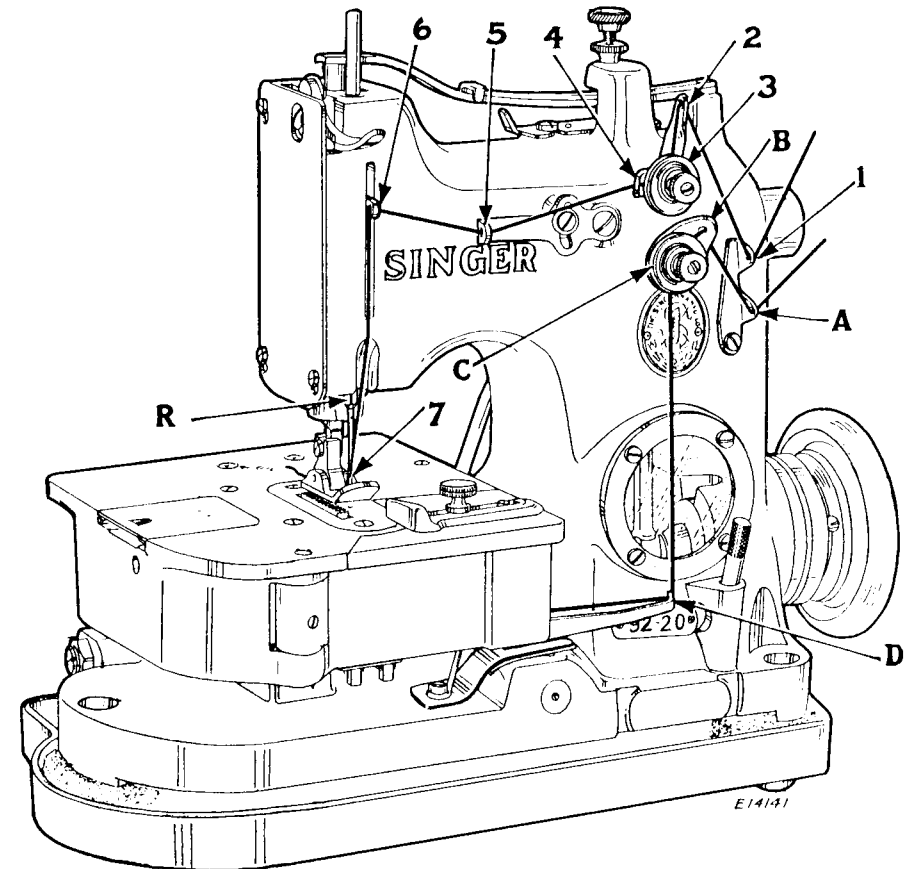
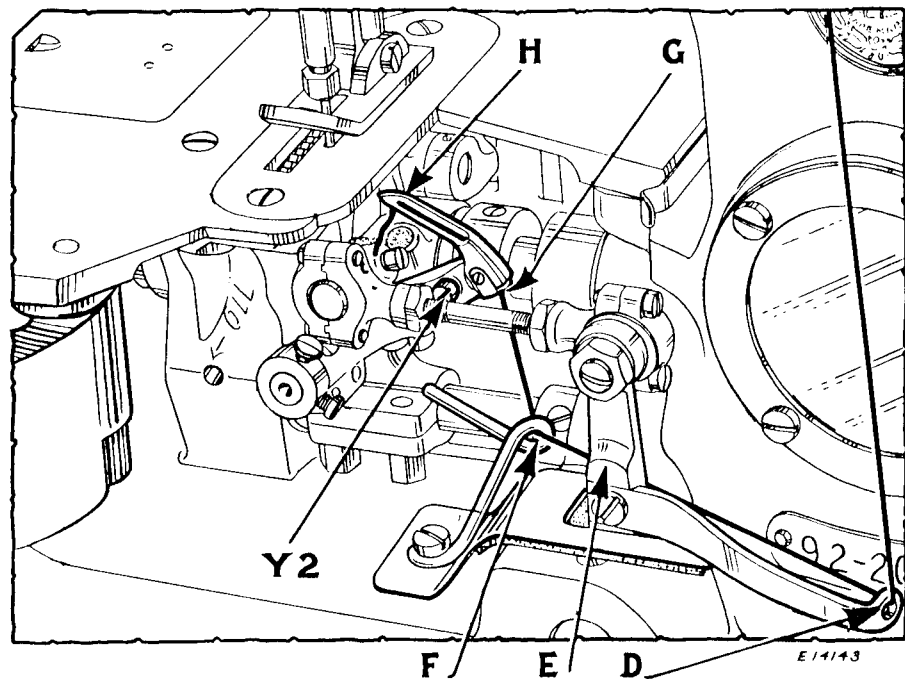
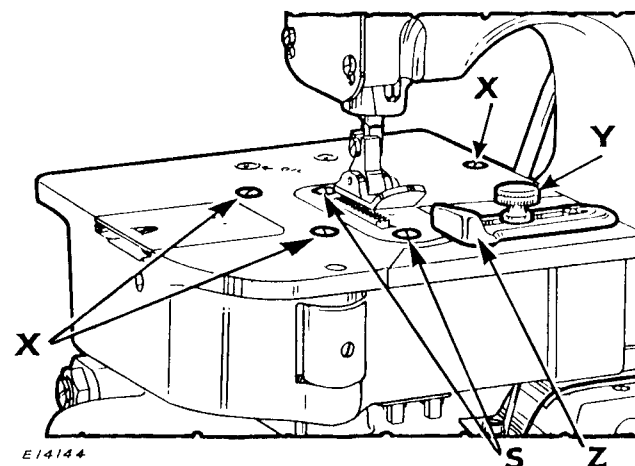

Fig. 6. Threading the Needle and Threading the Looper
Fig.7. Threading the Loooper
Fig.8. Removing Throat Plate and Cloth Plate
To reach the oiling points beneath the cloth plate, remove the throat plate and open the hinged portion of the cloth plate by turning it outward as shown in Fig. 7, page 10.
Loosen clamping nut (R, Fig. 6, page 9) at lower end of the needle bar and insert the needle up into the needle bar as far as it will go, with the long unbroken groove of the needle toward the operator, then securely tighten the clamping nut (R, Fig. 6).
To Thread the Needle (See Fig. 6)
To Thread the Loooper (See Figs. 6 and 7)
Open the cloth plate by turning out the hinged portion as shown in Fig.7, then turn the balance wheel over from the operator to bring the looper back (to the right) where it will be easily accessible for threading, as shown in Fig.7.
Pass the thread from the unwinder to the left through the lower eyelet (A, Fig.6, page 9) in the guide bracket at the right of the machine arm, then up and from right to left through the eyelet (B, Fig.6) in the looper thread tension bracket, to the left and between the looper tension discs (C, Fig.6), down and from right to left through the eyelet (D, Figs.6 and 7) in the end of the looper thread take-up lever, to the left and back of crank (E, Fig.7) through the guide (F, Fig.7), from right to left through the guide (G, Fig.7) in the heel of the looper, then from front to back (away from the operator) through the eye (H, Fig.7) of the looper. Draw about two inches of thread through the eye of the looper with which to commence sewing.
Loosen the thumb screw (Y, Fig.8) and move the cloth guide (Z, Fig.8) toward or away from the needle, as required, then tighten the thumb screw (Y).
Take out the two screws (S, Fig.8) and remove the throat plate, then loosen the looper set screw (Y2, Fig.7, page 10) and remove
the looper. Having selected the required looper and throat plate according to list on page 4, insert the looper into the looper carrier as far as it will go, then securely tighten the looper set screw (Y2, Fig.7). Attach throat plate (for single thread chain stitch) making certain that the thread retainer, at the under side of this throat plate, is set as close as possible to the looper so the needle will enter the triangle formed by needle thread and looper blade, then tighten the two screws (S, Fig.8).
When it becomes necessary to clean accumulated lint, etc., from the machine, remove the needle, open hinged portion of the cloth plate as shown in Fig.7, page 10, raise presser foot, take out the three screws (X, Fig.8), turn balance wheel to bring the feed dog to its lowest position, then remove cloth plate by withdrawing it toward the left (away from the upright part of the machine arm). To replace, reverse the operations for removal.